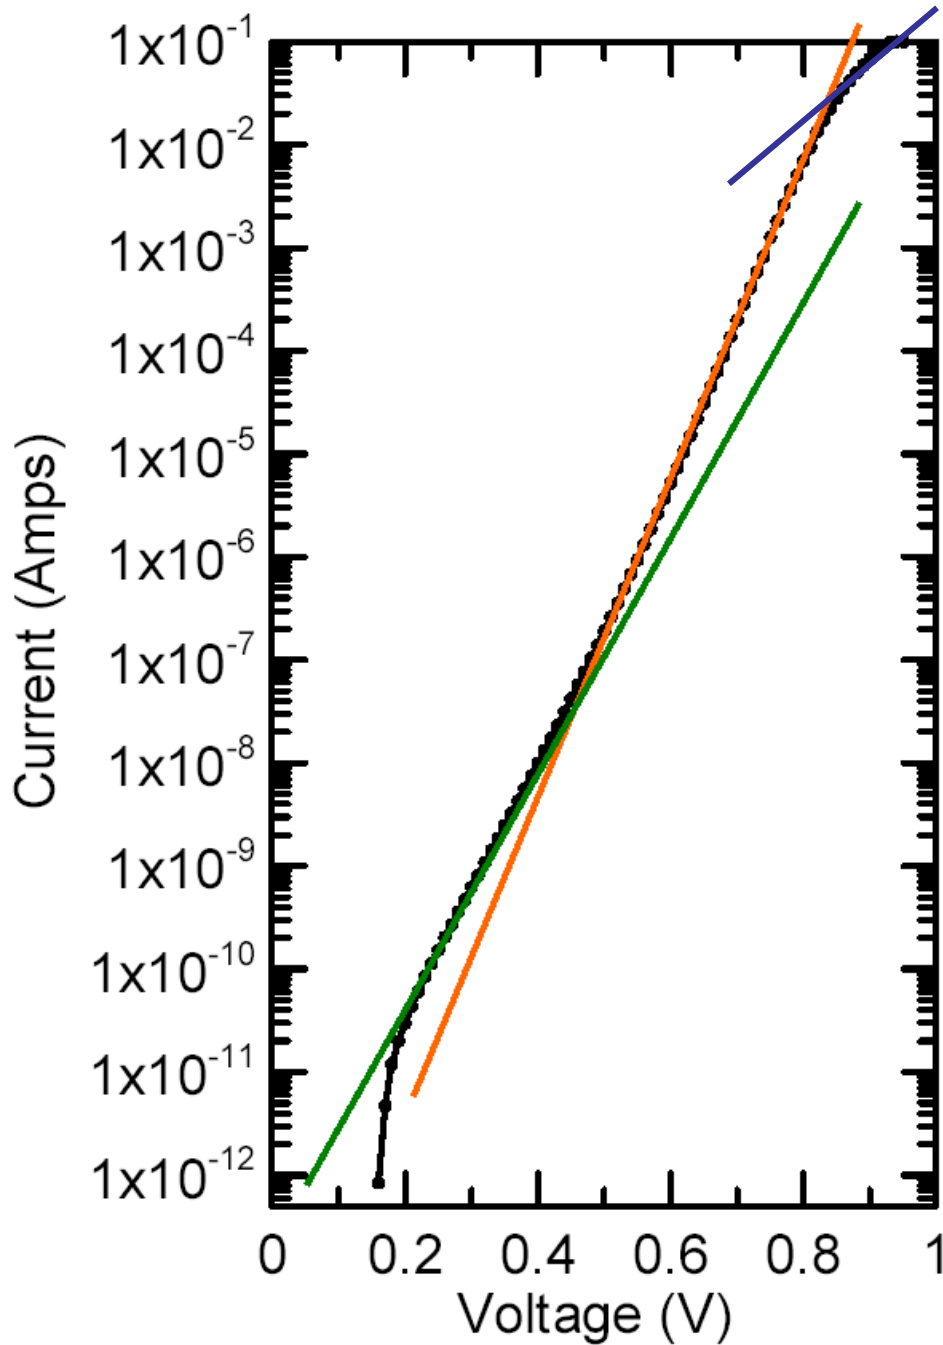

Figure 3. I-V characteristic for a forward biased realistic diode.
In the first region, denoted by the lowest solid line (**green**) in Figure 3, recombination in the depletion region is the dominant mechanism causing current to flow. At low forward voltages, the depletion width hardly shrinks while allowing some majority carriers to start diffusing across the junction. These carriers end up recombining inside the depletion width instead of making it across the depletion region. We call this the **forward recombination** region. In this region the ideality factor,  $n_{piecewise}$ , **is approximately equal to 1.5 to 2.0**. In addition  $I_{piecewise}$  **is equal to  $I_{fr}$**  where  $I_{fr}$  is
The second region of the characteristic is called the **diffusion region** of operation and is approximated by the middle solid line (orange) in Figure 3. In this region  $I_{piecewise}$  is the same as  $I_0$
The upper most solid line (blue) in Figure 3 is the region in which we begin to see **high level injection** and **ohmic effects**. The **high level injection region** has a substantially steeper slope than the **ohmic region** which becomes much flatter at higher currents. Note that the **high level injection region** is oftentimes obscured by the slope-over associated with the series resistance.
- F. After you have data in the log (I) vs. linear (V) form, take a piece of paper and use its straight edge to approximate each region. Not all regions may be present in the data you have, so look carefully and compare the regions to those shown in Figure 3. Fill out the table below by recording the voltage range for each region. Also plot up the ideality factor versus voltage using equation (3) to aid in the interpretation of the data.